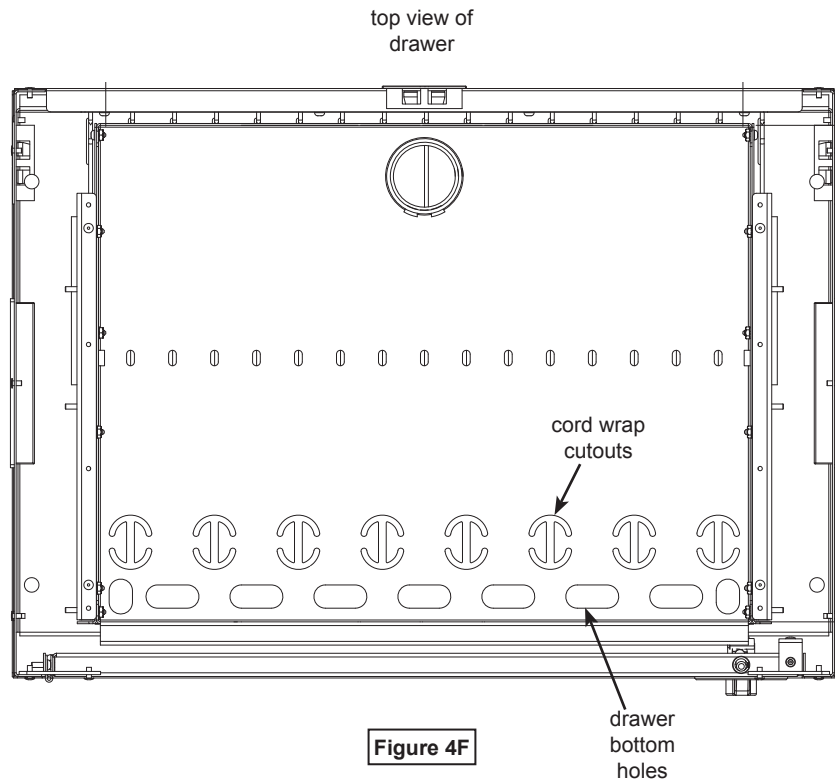

Figure 4F
3. Use the cord wrap cutouts to secure a length of charge cord to each device. **Figure 4F.** Leave just enough slack in the cords to provide easy connection to each device. Long charge cords can be bundled and secured with the chargers and Velcro inside the drawer or behind the devices in the device storage area..